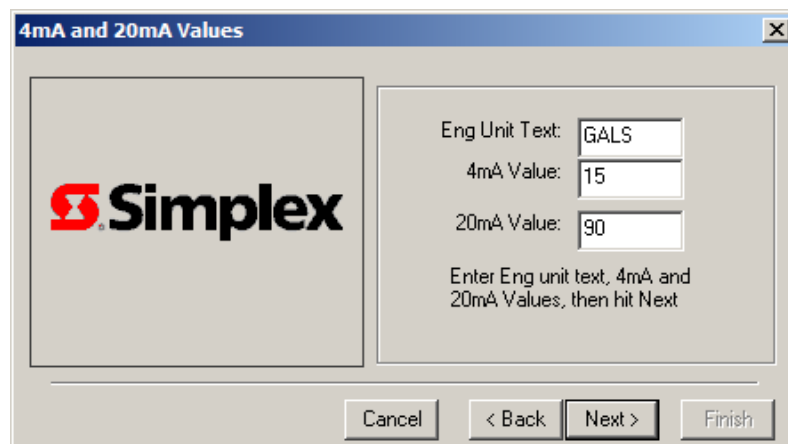

Figure 13-3. 4mA and 20 mA Values Dialog
3. Click the **Next** button to view the dialog shown in Figure 13-3.
5. Click the **Next** button at the bottom of Figure 13-3 to continue. A dialog similar to the one shown in the next figure appears